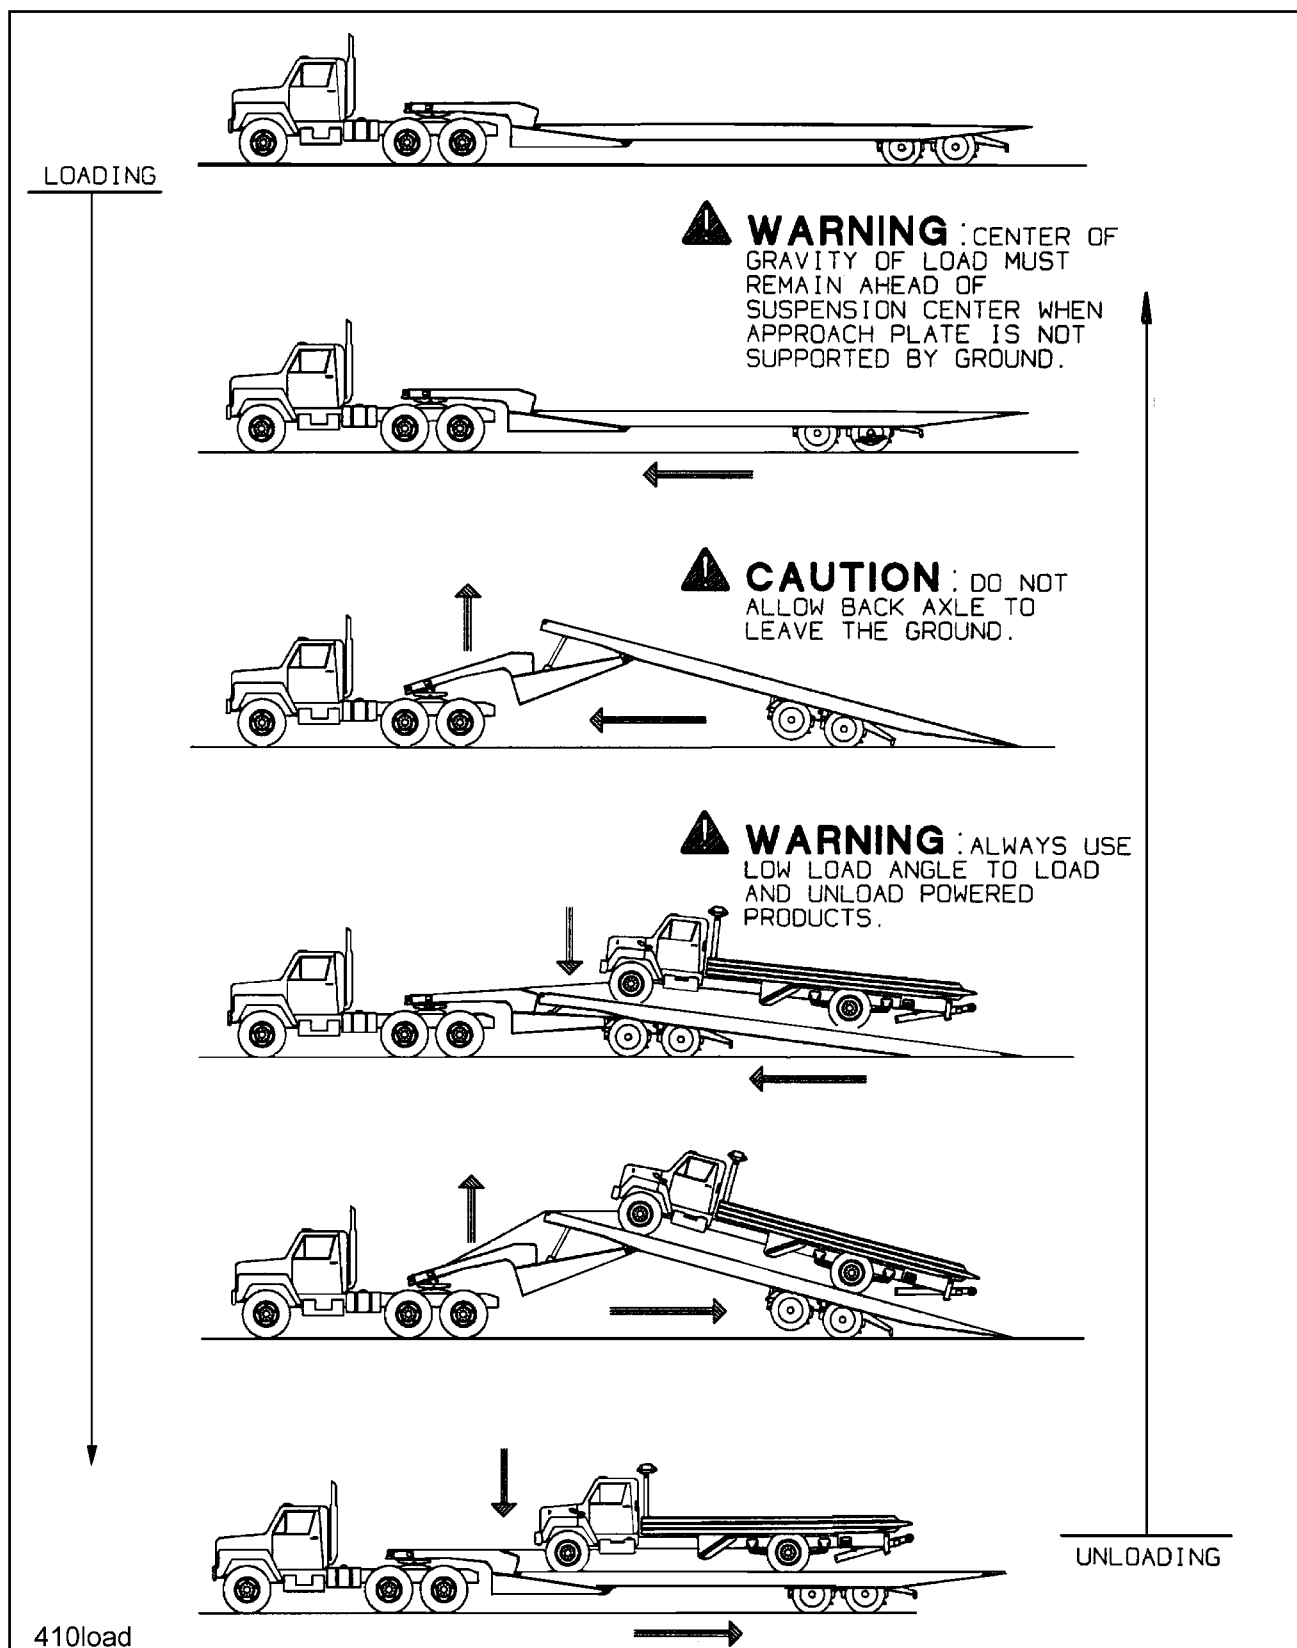

Figure 3-7 Steps for Loading and Unloading
3-13.2 Park the tractor/semitrailer in a straight line on level even surface. Set the tractor brakes and release the semitrailer brakes (See Figure 3-7).
**3-14.2** Park the tractor/semitrailer in a straight line on a level even surface (**See Figure 3-7**). Set the tractor brakes and release the semitrailer brakes.